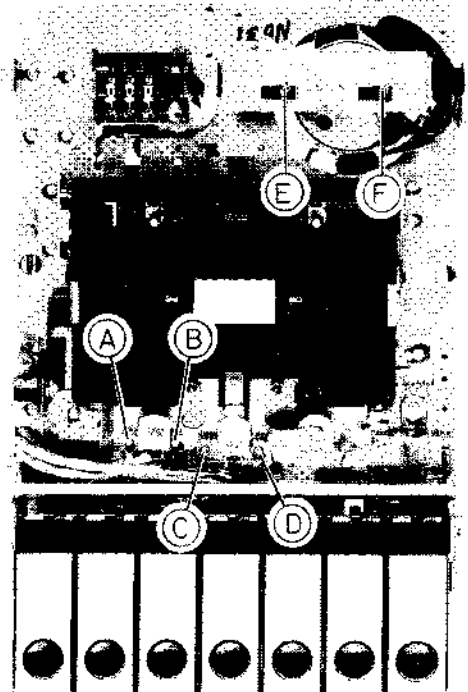

Fig. 11
TO REPLACE HEAD (Refer to Fig. 11)
5. Adjust the head angle by turning the screw (C) minutely for maximum output. (Refer to Fig. 11 & 13).
3. Set the METER switch (E) to BEAT CUT position and the TAPE SELECTOR switch (F) to NORMAL position (Refer to Fig. 11 & 13).